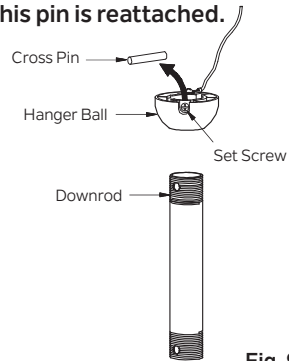

Fig. 9
Step 6. Remove the hanger ball from the downrod assembly by loosening the set screw, unscrewing and removing the cross pin and unscrewing the ball off the rod. (Fig. 9)